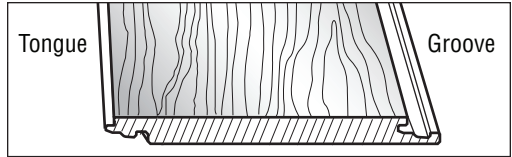

Fig. 7
2. **Lay the first full piece with the small, tongue side facing the wall (Fig. 7).**